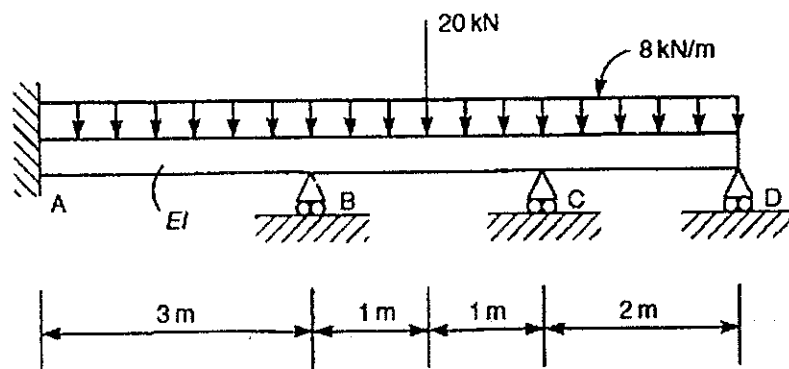

Figure 3
- (b) Analyse the continuous beam shown in Figure 3 below using **Moment Distribution Method** and draw the bending moment diagram. ($EI = \text{Constant}$).